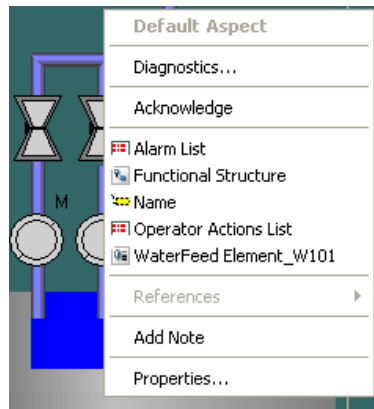

Figure 73. Context Menu
**Accessing the Audit List.** The Audit List is accessible through the context menu for the object, on which the list is placed. The name of the list may differ depending on configuration. In the example the list is named Operator Actions List, see Figure 73.